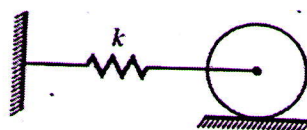

Fig.1
- 13 a) A circular cylinder of mass 5kg and radius 20 cm is connected by a spring of stiffness 3000 N/m as shown in figure 1. It is free to roll on horizontal surface without friction, determine the natural frequency of vibration. (5)